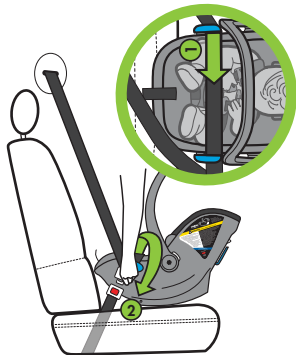

Figure 77a
- Route lap portion of the vehicle belt through both blue Vehicle Lap Belt Guides (1) and buckle vehicle belt as shown in **Figure 77a**. DO NOT pull the vehicle belt all the way out during this step.